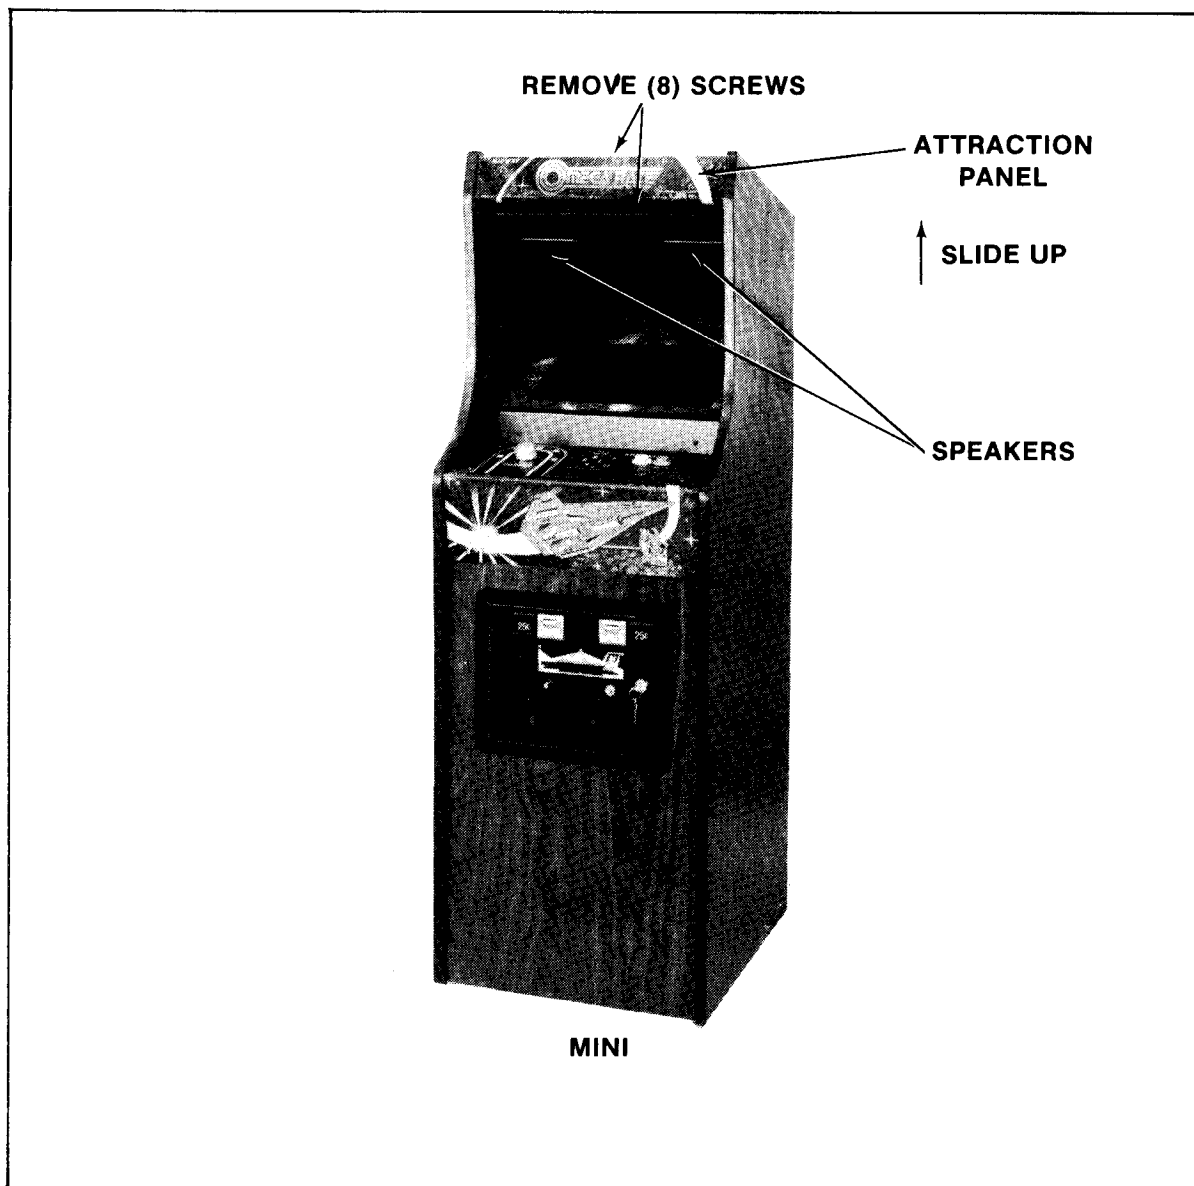

FIGURE 36
2. Mini model — See Figure 36: